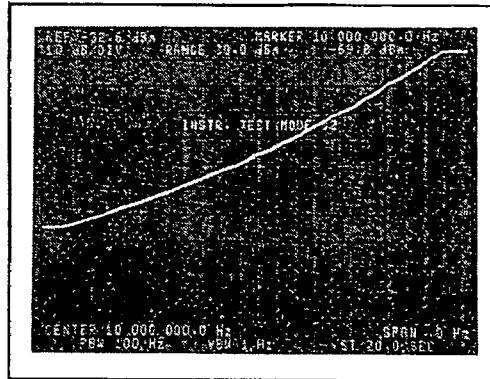

Figure 11-P-16. IF Gain Test Display
Rotate  slowly and smoothly in a counterclockwise direction to produce a linear ramp response similar to the one shown in Figure 11-P-16. If there are any significant discontinuities, cusps or "glitches" in the ramp, rotate  clockwise until the beeper sounds, clear the trace by pressing CLEAR A and then repeat the test. Reappearance of the discontinuity indicates trouble in the IF gain switching (Service Group A-3) or video offset circuitry (Service Group A-5).
- HH. Rotate  clockwise until the beeper sounds. Set the Center Frequency to 20MHz and the Sweep Time to 30 seconds. Clear the trace by pressing CLEAR A. Start the sweep by pressing SINGLE. Rapidly and smoothly rotate  counterclockwise until the beeper sounds and then clockwise until the beeper sounds. Repeat until the end of the sweep to produce several ramp like responses as shown in Figure 11-P-17. Discontinuities or cusps that appear at the same points on each of the responses, or the inability to obtain full-scale deflection indicates trouble in the IF gain switching (Service Group A-3) or video offset circuitry (Service Group A-5).